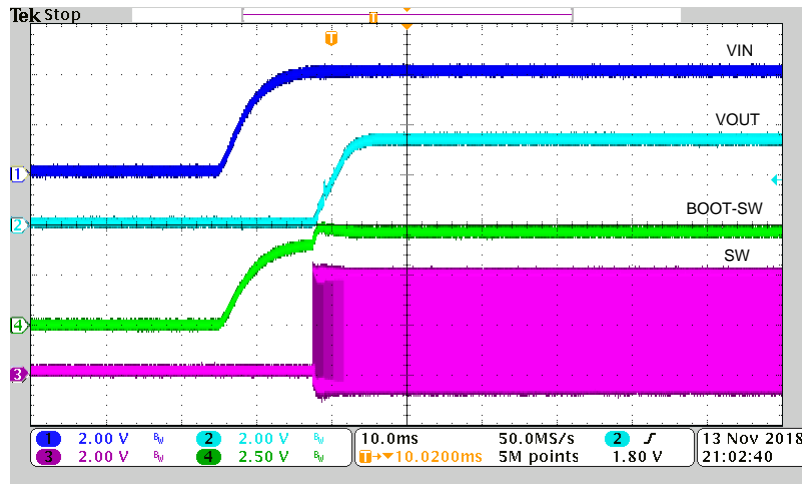
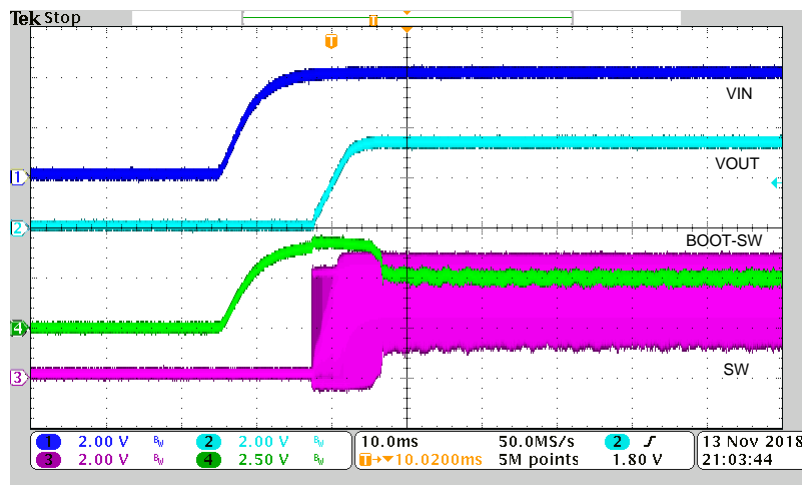

Figure 16. Startup Waveform with  $V_{IN} = 4\text{ V}$ ,  $I_{OUT} = 2\text{ A}$
Figure 17. Startup Waveform with  $V_{IN} = 4\text{ V}$ ,  $I_{OUT} = 3\text{ mA}$
Figure 16 and Figure 17 show the startup waveforms of solution (1) under different conditions.